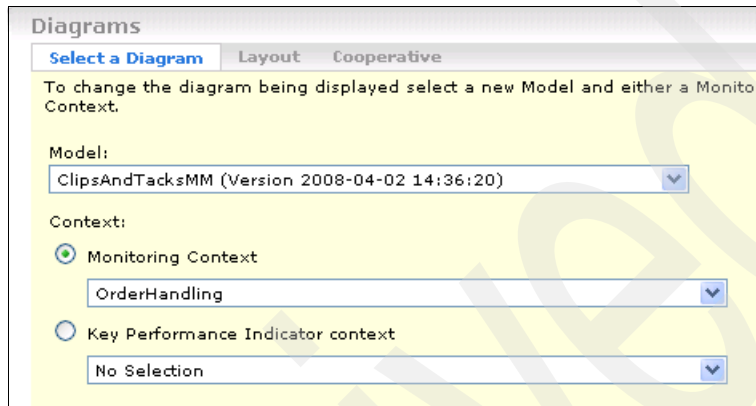

Figure 5-105 Configure Diagrams view
- b. Click the **Select a Diagram** tab (Figure 5-105):